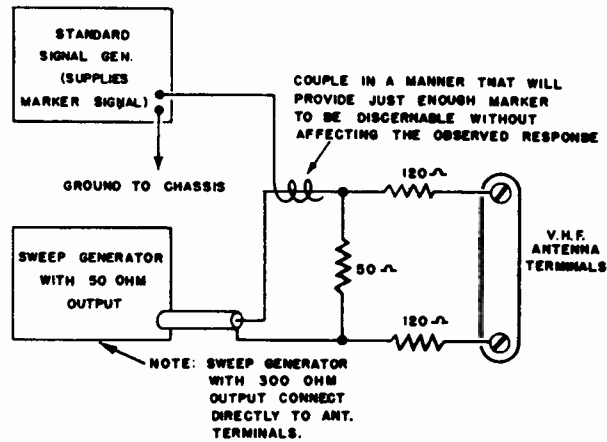

Figure 5. GENERATOR CONNECTIONS FOR TELEVISION R.F. CHANNEL ALIGNMENT.
1. Connect maker and sweep generator as shown in Figure 5, low side to chassis.